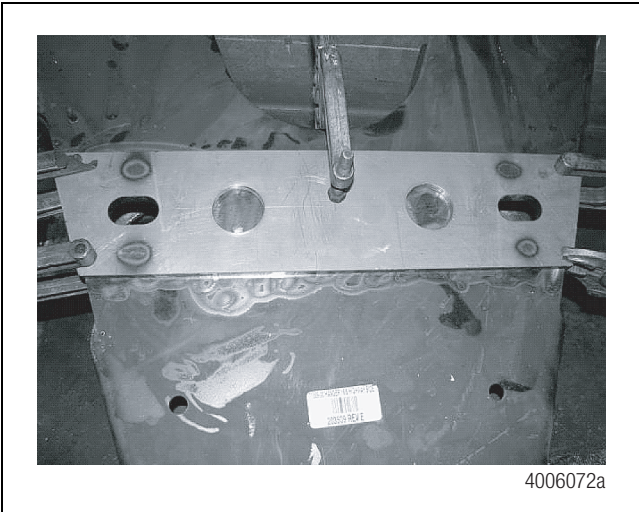
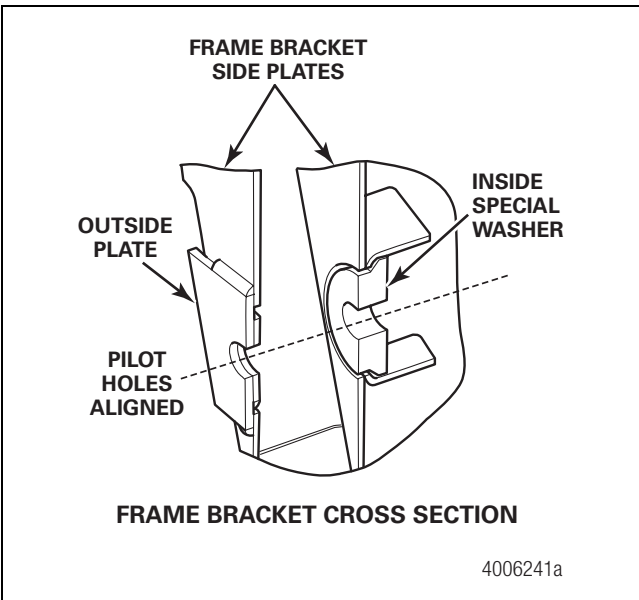

Figure 17
Figure 18
8. Install the outside plate. It is slightly longer than the original plate and will extend beyond the original plate. Align the plate so it is centered and the angles match the original plate. Clamp in place. Figure 17. Verify that the pilots that are welded to the slide plate repair kit fit correctly through the holes cut into the original side plate. Figure 18.